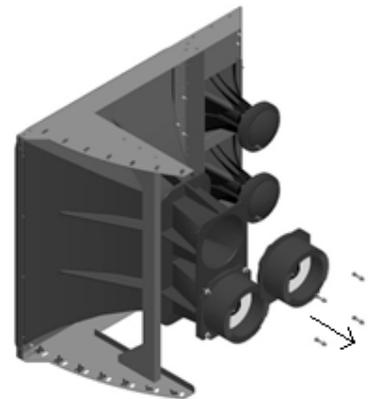

Figure 29: A-2305 Removal
- c. Pull off bad driver (**Figure 29**).